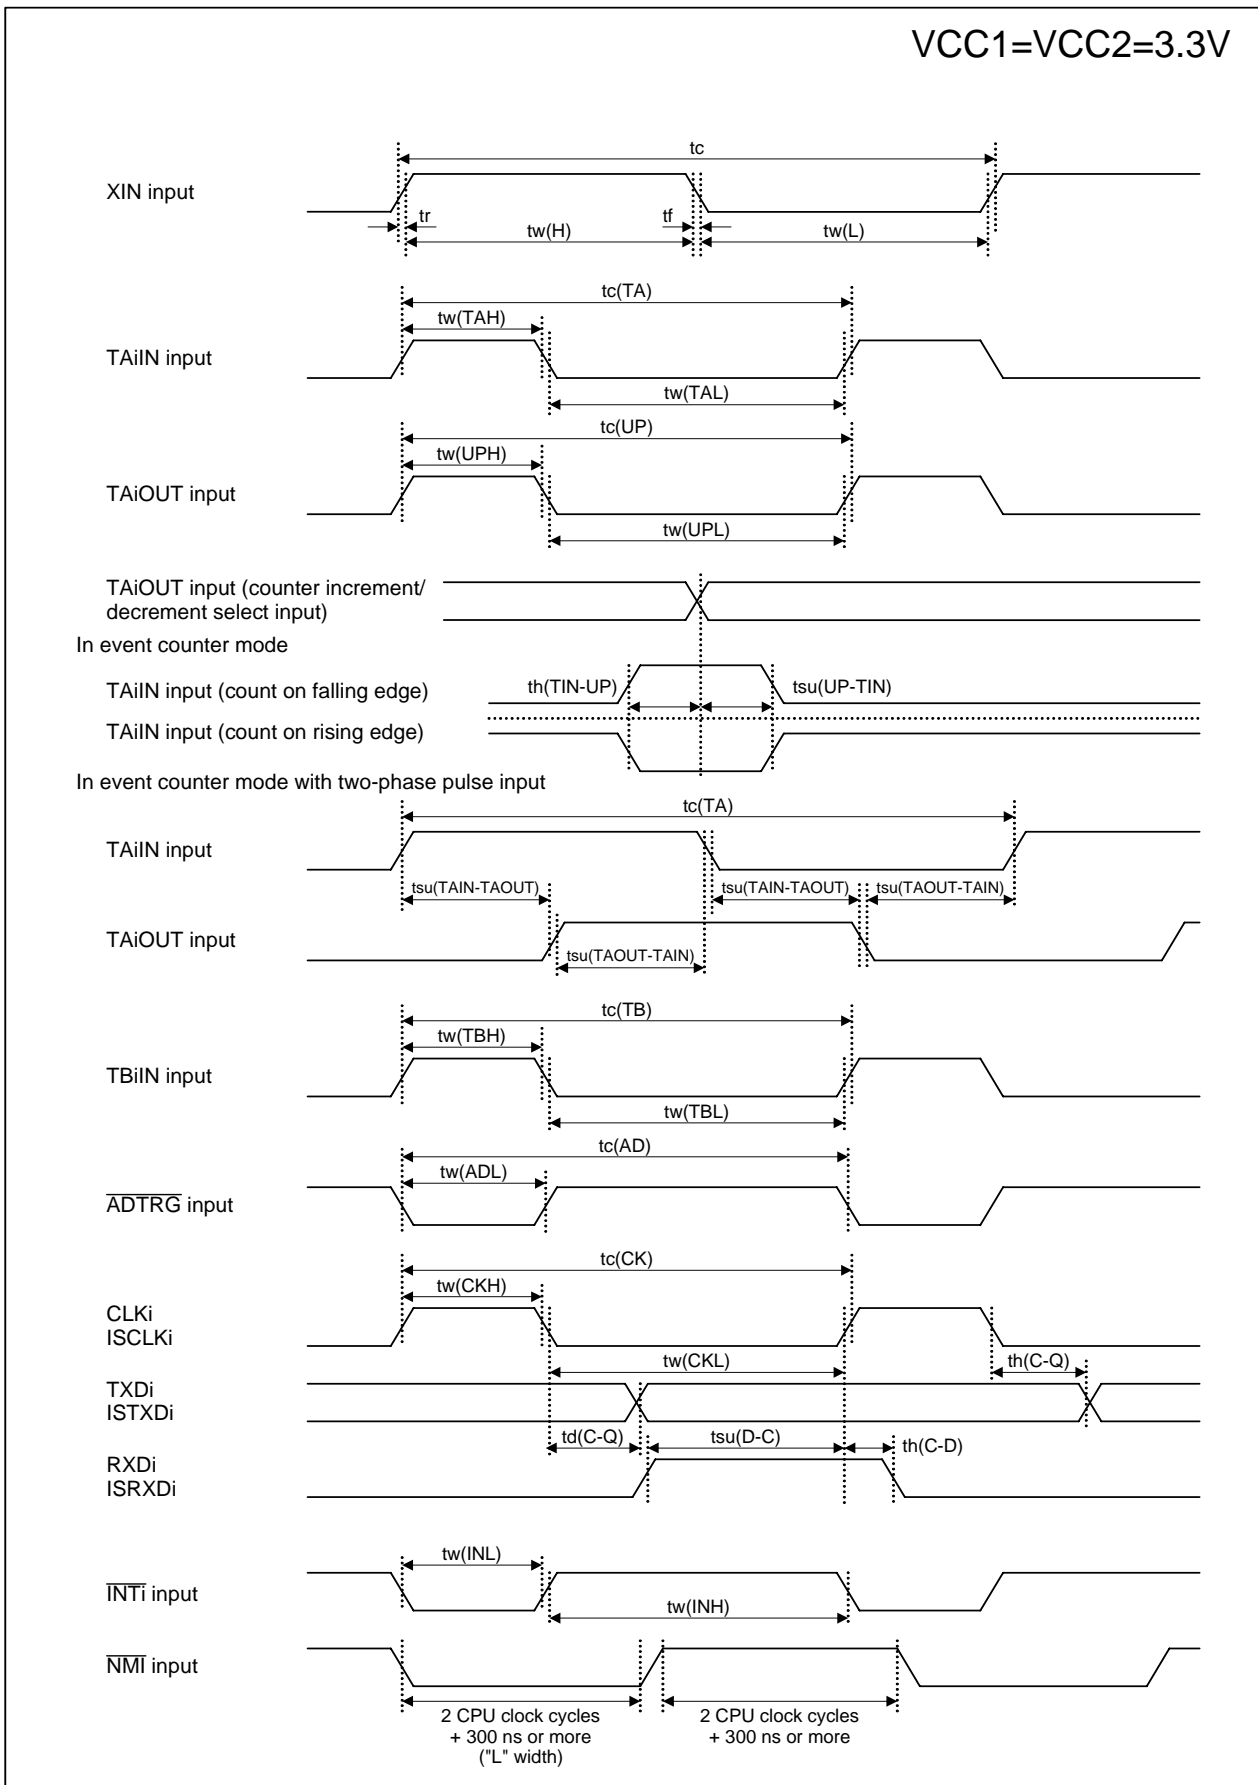

Figure 5.7 VCC1 = VCC2 = 3.3 V Timing Diagram (1/4)
71	• Figure 5.7 Vcc1=Vcc2=3.3V Timing Diagram (1) $t_h(BCLK-AD)$, $t_h(BCLK-CS)$ and $t_h(BCLK-RD)$ values modified; $t_{ac1}(AD-DB)$ expression on note 2 modified; $t_h(WR-DB)$, $t_h(WR-AD)$ and $t_w(WR)$ expression on note 3 modified; t_{cyc} expression added
47	Electrical Characteristics <ul style="list-style-type: none"> [Term changed] Low Voltage Reset → Hardware Reset 2 Low Voltage Detection → Vdet3 and Vdet4 detection circuit • Table 5.1 Description in Condition field of Pd (Power consumption) partially modified • Tables 5.2 to 5.9 f(BCLK) is changed to f(CPU) • Table 5.4 Description added in Parameter field of f(CPU); f(VCO) added • Tables 5.5 to 5.7 and Tables 5.31 to 5.33 Description in XCOUT and Hysteresis in Parameter fields partially modified • Table 5.7 and 5.33 Structure and standard values revised; items in Measurement Condition and NOTE added • Table 5.8 Description in Parameter field and NOTE partially modified • Table 5.9 and 5.10 Description in Parameter field and NOTE partially modified • Tables 5.11 and 5.36 Description in Parameter field and standard value partially modified • Tables 5.19 and 5.42 added • Table 5.24 Values revised; Table 5.25 and 5.26 added • Table 5.27 Titles modified; NOTE added • Table 5.28 moved to the last table in Timing Requirements • Table 5.29 NOTE 3 added; Table 26.30 NOTE 5 added • Figures 5.3 to 5.6 Order rearranged; measurement condition modified • Table 5.31 to 5.35 f(BCLK) revised to f(CPU) • Table 5.47 Values revised; Table 5.48 and 5.49 added • Table 5.50 Titles modified; NOTE added • Table 5.51 Table moved to the last table in Timing Requirements • Table 5.52 NOTE 3 added; Table 5.53 NOTE 5 added • Figures 5.7 to 5.10 Order rearranged